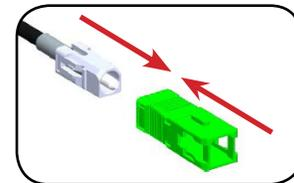

Figure 4
**Step 4:** Align the key on the outer housing with the black line on the connector, then slide the outer housing over the entire assembly until it snaps into place (**Figure 4**).